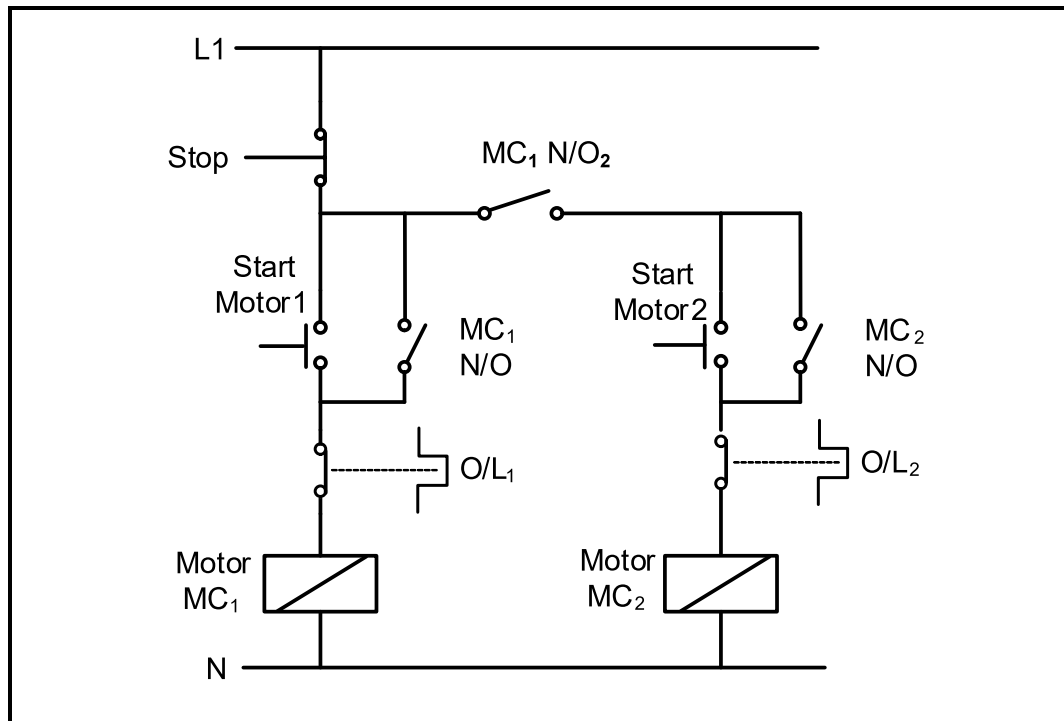

FIGURE 7.6: MANUAL SEQUENCE STARTER WITHOUT A TIMER
7.6 Refer to FIGURE 7.6 below and answer the questions that follow.
7.6.1 Redraw in the ANSWER BOOK and complete the ladder logic diagram for FIGURE 7.6.1 below that executes the same function as the one in FIGURE 7.6.